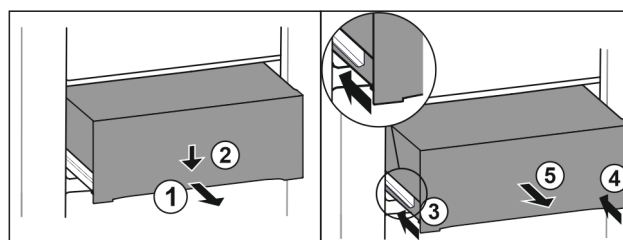

Fig. 135
- Pull out the drawer halfway. Fig. 135 (1)
- Press down the drawer on the front. Fig. 135 (2)
- Push in the left rail approximately 2 cm (13/16 in). Fig. 135 (3)
- Push in the right rail approximately 2 cm (13/16 in). Fig. 135 (4)
- Remove drawer to the front. Fig. 135 (5)